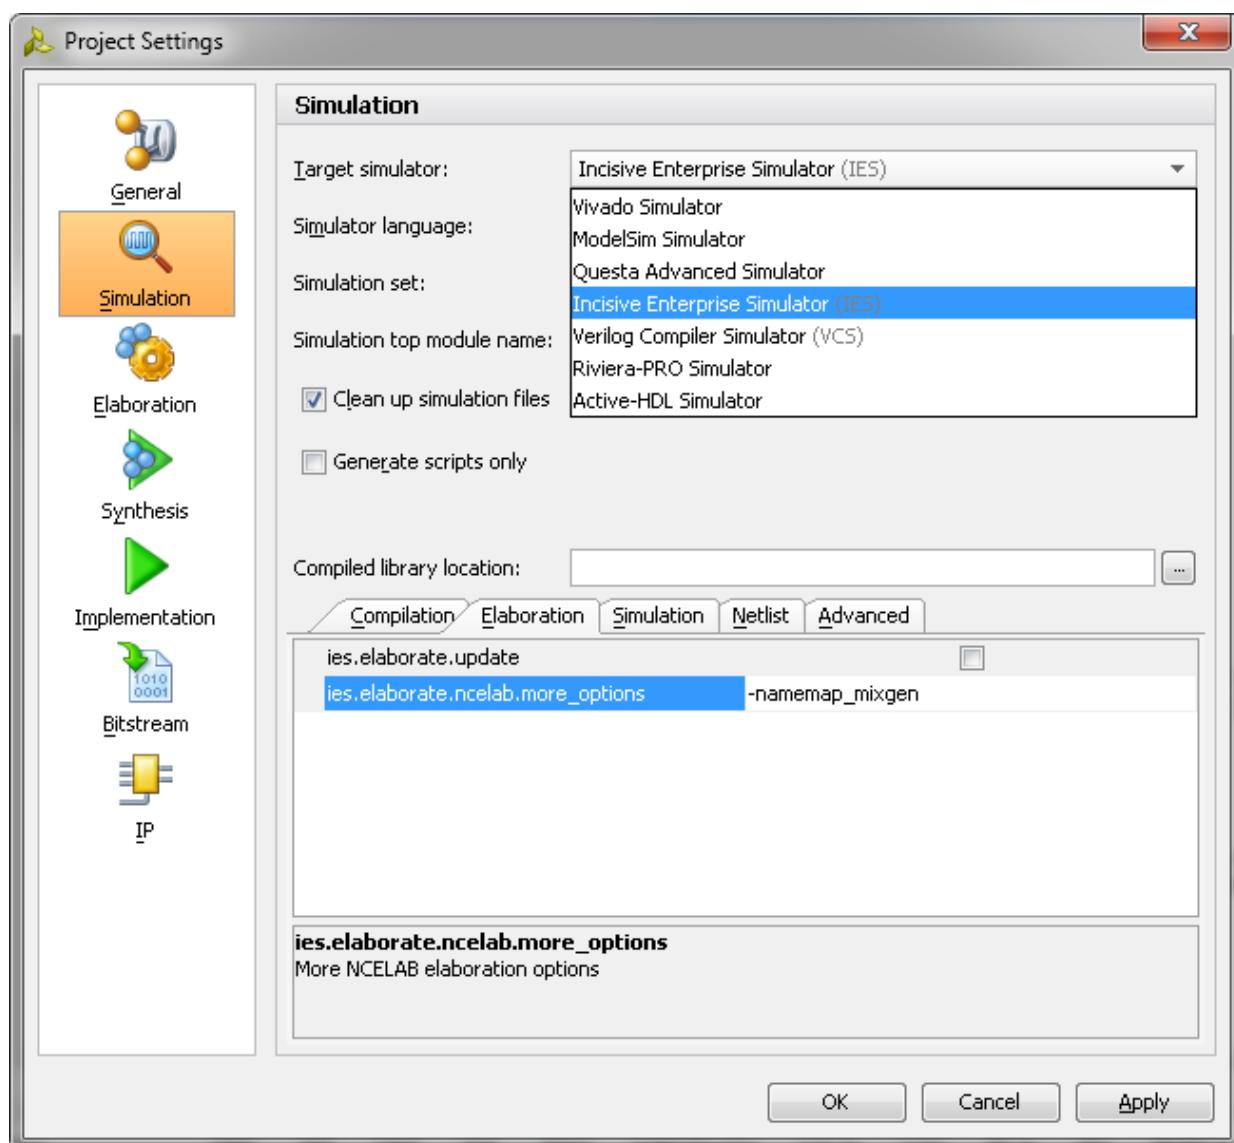

Figure 2-55: Simulation with IES
- d. Under the **Simulation** tab, set the `ies.simulate.runtime` to 1 ms (there are simulation RTL directives which stop the simulation after certain period of time which is less than 1 ms) as shown in Figure 2-55.